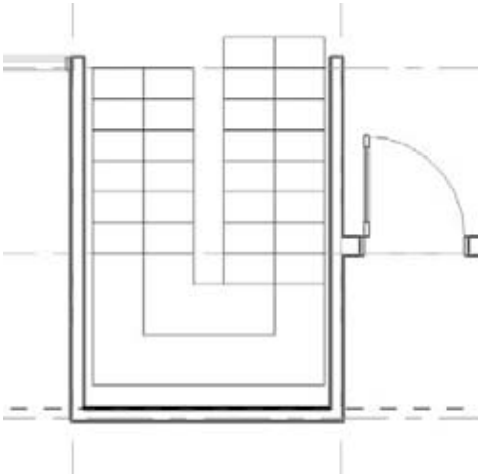

Figure 4.121
- To make the stair fit between the walls, align the outer boundary lines to the bounding walls. Still in Stair Sketch mode, align the landing by selecting the Align tool, then the interior side of the wall at the bottom of Figure 4.121, and finally the landing boundary.